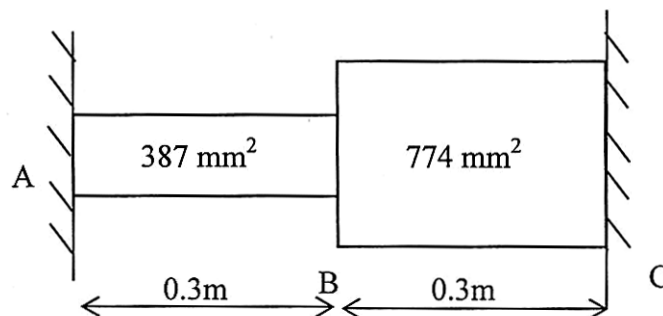

Fig. 2
2. (a) Determine the values of stresses in portion AB and BC of the steel bar shown in figure 2, at the temperature -45°C of the bar, knowing that a close fit exists at both the rigid supports, when the temperature is $+24^{\circ}\text{C}$.